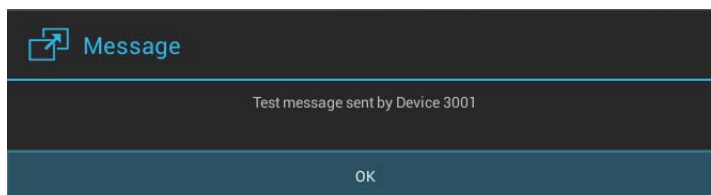

FIG. 43 Enzo - Successful Test Message
5. To test the connection, press the *Send Message* icon in the *RECEIVER LIST* to send a test message to the Enzo unit. If the Enzo is communicating with the panel, it will indicate the test message on it's connected display (FIG. 43):